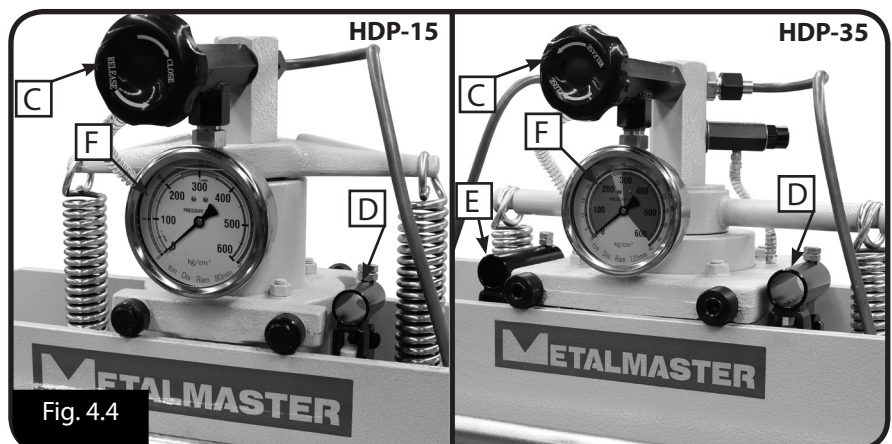

Fig. 4.4
3. Close the release valve finger tight.(C in Fig.4.4)
4. Operate the pump handle to build pressure.(D in Fig.4.4)
- NOTE: The model HDP-35 has a two stage pump. Pressure can be quickly applied using the fast pump position (E in Fig.4.4) then changed to the slow position. (D in Fig.4.4) for better control
3. Pressure will be maintained and can be monitored on the gauge (F in Fig.4.4) until the release valve is opened.
3. Open release valve (C in Fig.4.4) to release pressure, and the ram will retract.